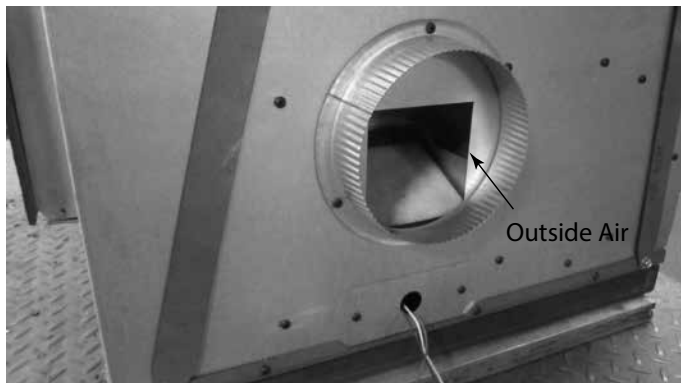
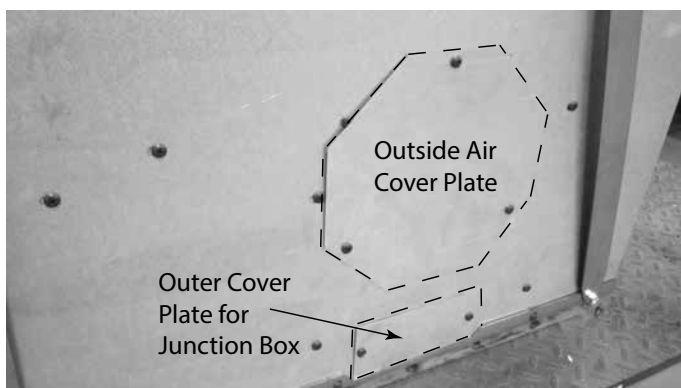

Figure 3.12 Right Side
Figure 3.13 Left Side
1. Remove outside air collar (Figure 3.12) and the outside air cover plate (Figure 3.13).